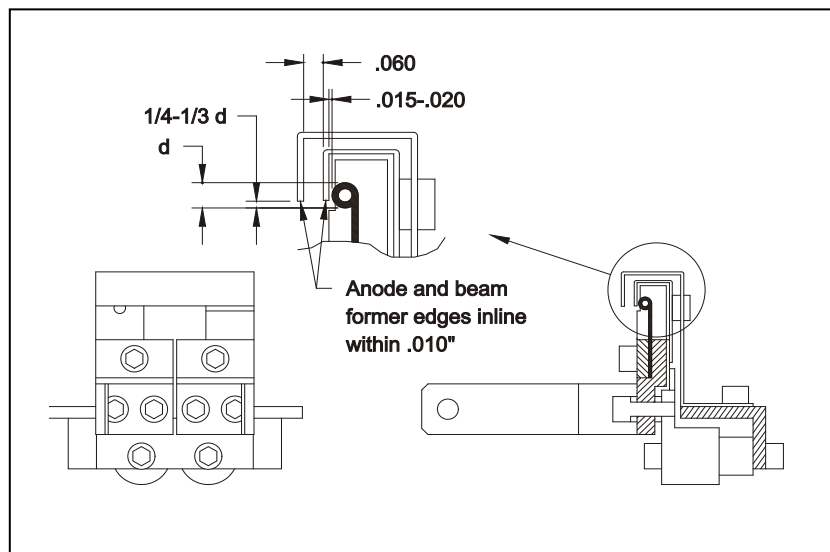

Figure 2-A Filament Location
If the emitter is disassembled, refer to 213-0150-4 or 213-0150-5 pdf drawing and figure 2-A. Ninety percent of system problems during production relate to the EB-source emitter, so close attention to its assembly is of the utmost importance to trouble free runs.
- 2** Relative position of anode plate, beam former and filament must be precise to .005". Anode plate (outer shell) must not be bent forwards or backwards. (Refer to Figure 2-A) The filament (coils forward!) normally projects 1/3 of its diameter or slightly less below beam former. Clearance between these three elements should be judged, based on performance, with a well calibrated, experienced eye. The source will only work properly if these clearances are properly maintained.
- 9** Install the new filament making sure that the filament orientation is correct (see figure 2-A). Use new #6 x 1/4" screws, loosely mount the filament clamps in place. Gently tap the emitter assembly on a flat surface to settle the filament in place. Slide the filament clamp on the right cathode block until it is flush with the right side of the block. Snug the right #6 x 1/4" screws. Gently push the left hand clamp into place. NOTE: Sliding this clamp can cause the filament to warp or bow. Snug the left #6 x 1/4" screws. Now check the alignment of the filament to the beam former.
- 13** Push down on the Anode, tighten the last two #6 x 1/4 screws. Now check the alignment of the Anode to the beam former (see figure 2-A).